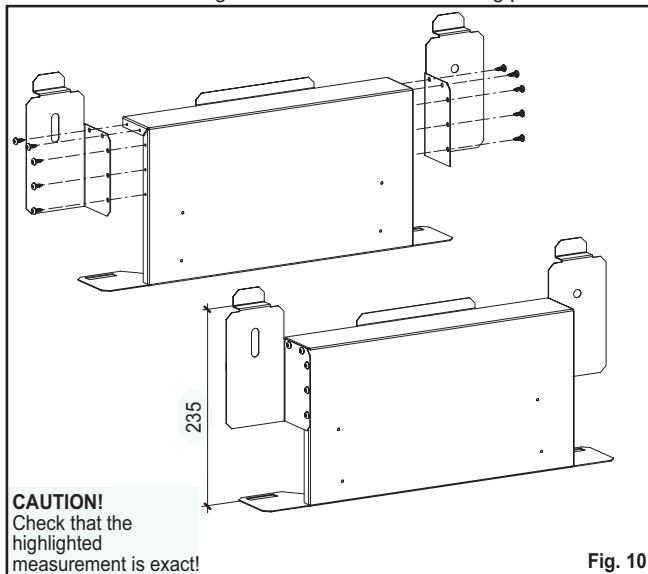

Fig. 10
Proceed as shown in fig. 10 to assemble the mounting plate.
- Comply with the measurement highlighted in fig. 10.